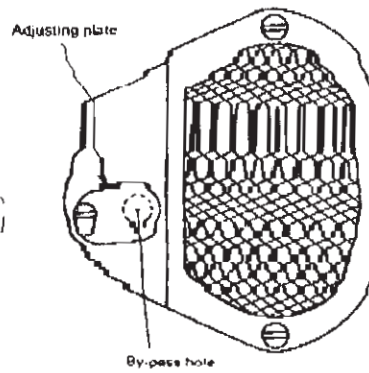

Fig.12
13、 Adjustment of oil pump (图 12)